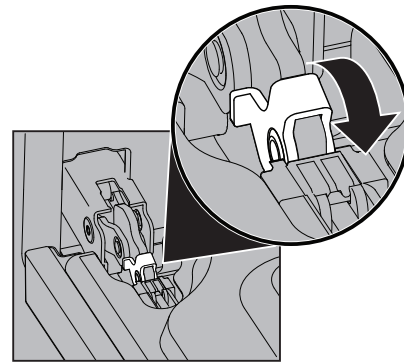

Figure 20: Door hinge lock
2. Pull up the lock located on each hinge support toward front of the oven until the lock stops. You may have to apply a little upward pressure on the lock to pull it up (Figure 20).
4. Push the door hinge locks up toward and into the oven frame on both left and right oven door hinges to the locked position (Figure 20).